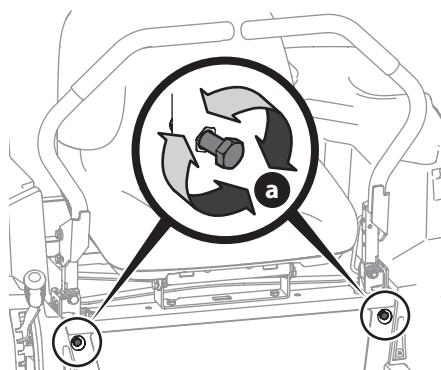

Figure 41
- Locate the lapbar drive control lever stop adjustment bolts (a) on the front of the seat frame (Figure 41).
- To decrease the forward speed, turn the lapbar drive control lever stop adjustment bolts (a) clockwise. To increase the forward speed, turn the lapbar drive control lever stop adjustment bolts (a) counter-clockwise. Turn the lapbar drive control lever stop adjustment bolts (a) in the necessary direction 1/4-turn at a time. After turning the lapbar drive control lever stop adjustment bolts (a), check the adjustment by driving the tractor (Figure 41).